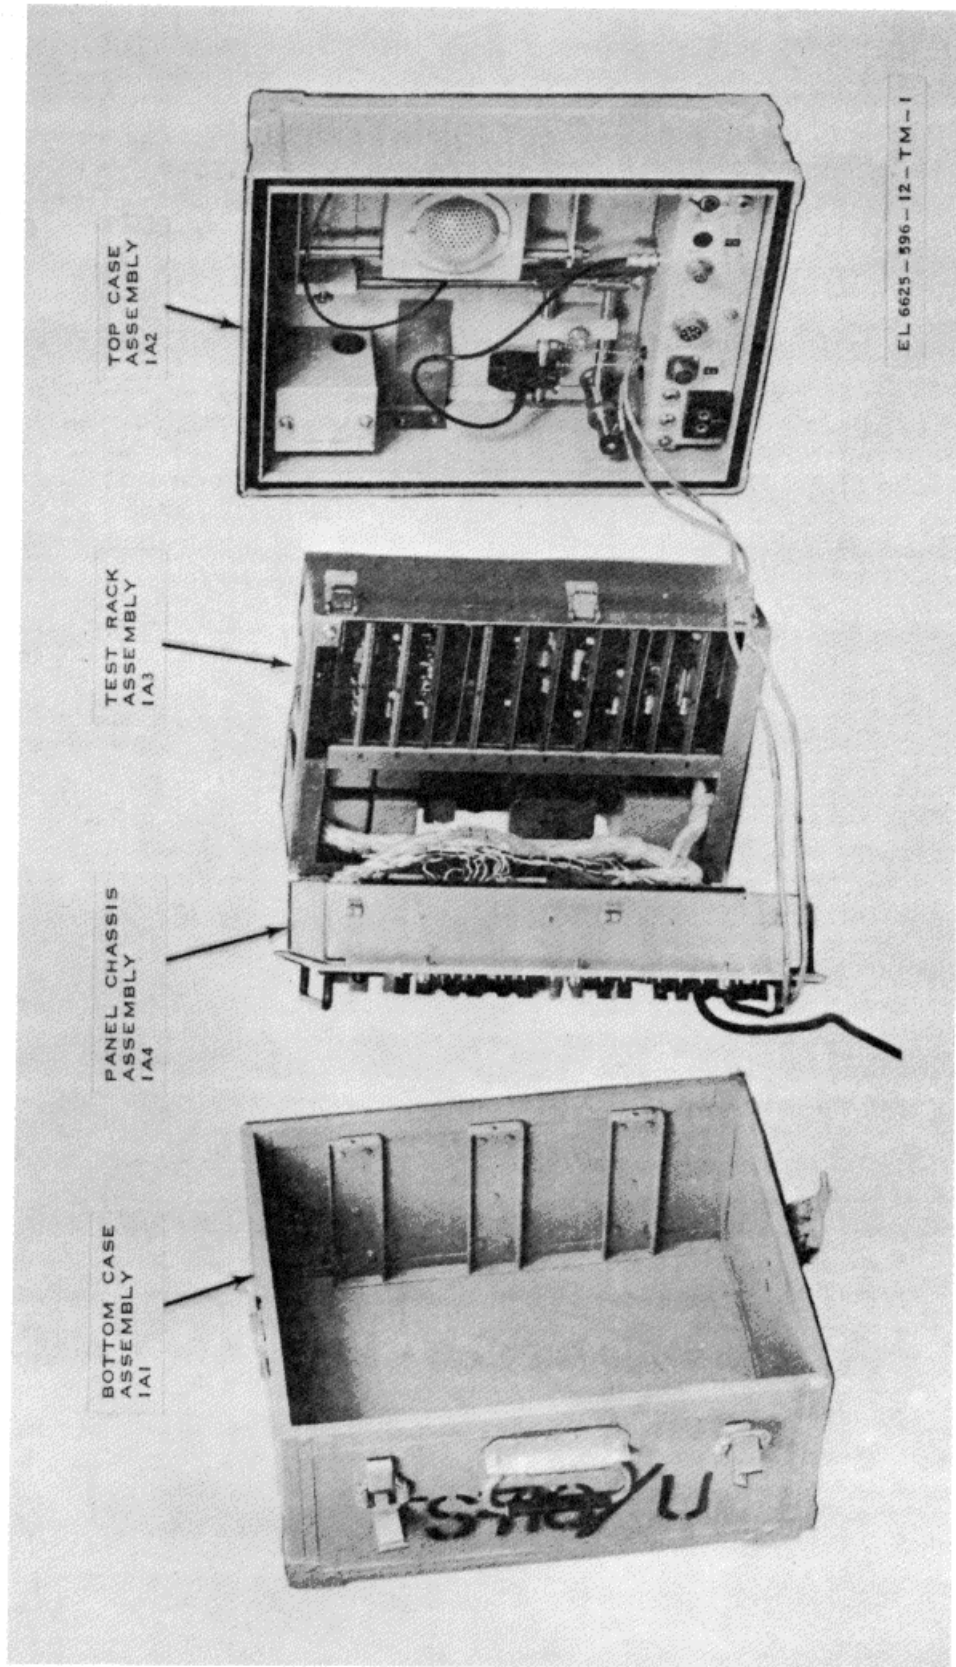

Figure 1-1. Telephone Test Set TS-716/U.
a. This manual describes Telephone Test Set TS-716/U (fig. 1-1), hereafter referred to as the TS-716/U, and provides instructions for installation, operation, and operator and organizational maintenance. It includes instructions for operation under usual and unusual conditions, cleaning and inspection of the equipment, and replacement of parts available to the operator and organizational repairman.